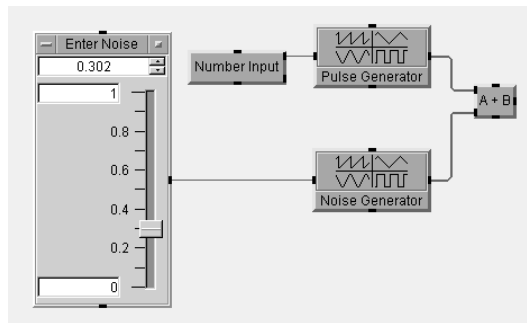

Figure 2.4. Partial PulseProgram with two waveforms added
28. Connect the Pulse Generator, Noise Generator, and A+B as shown in Figure 2.4.